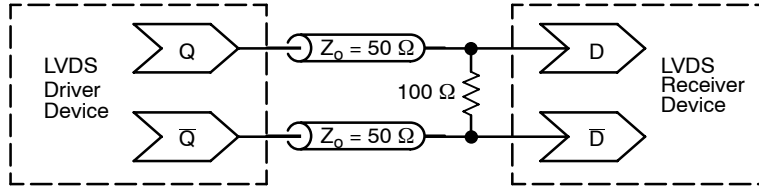

Figure 13. Typical LVDS Termination for Output Driver and Device Evaluation
5. LVDS outputs require 100 Ω receiver termination resistor between differential pair. See Figure 13.
12. Measured by forcing $V_{INPPmin}$ with 50% duty cycle clock source and $V_{CC} - 1400\text{ mV}$ offset. All loading with an external $R_L = 100\ \Omega$. Input edge rates 150 ps (20%–80%). See Figure 13.